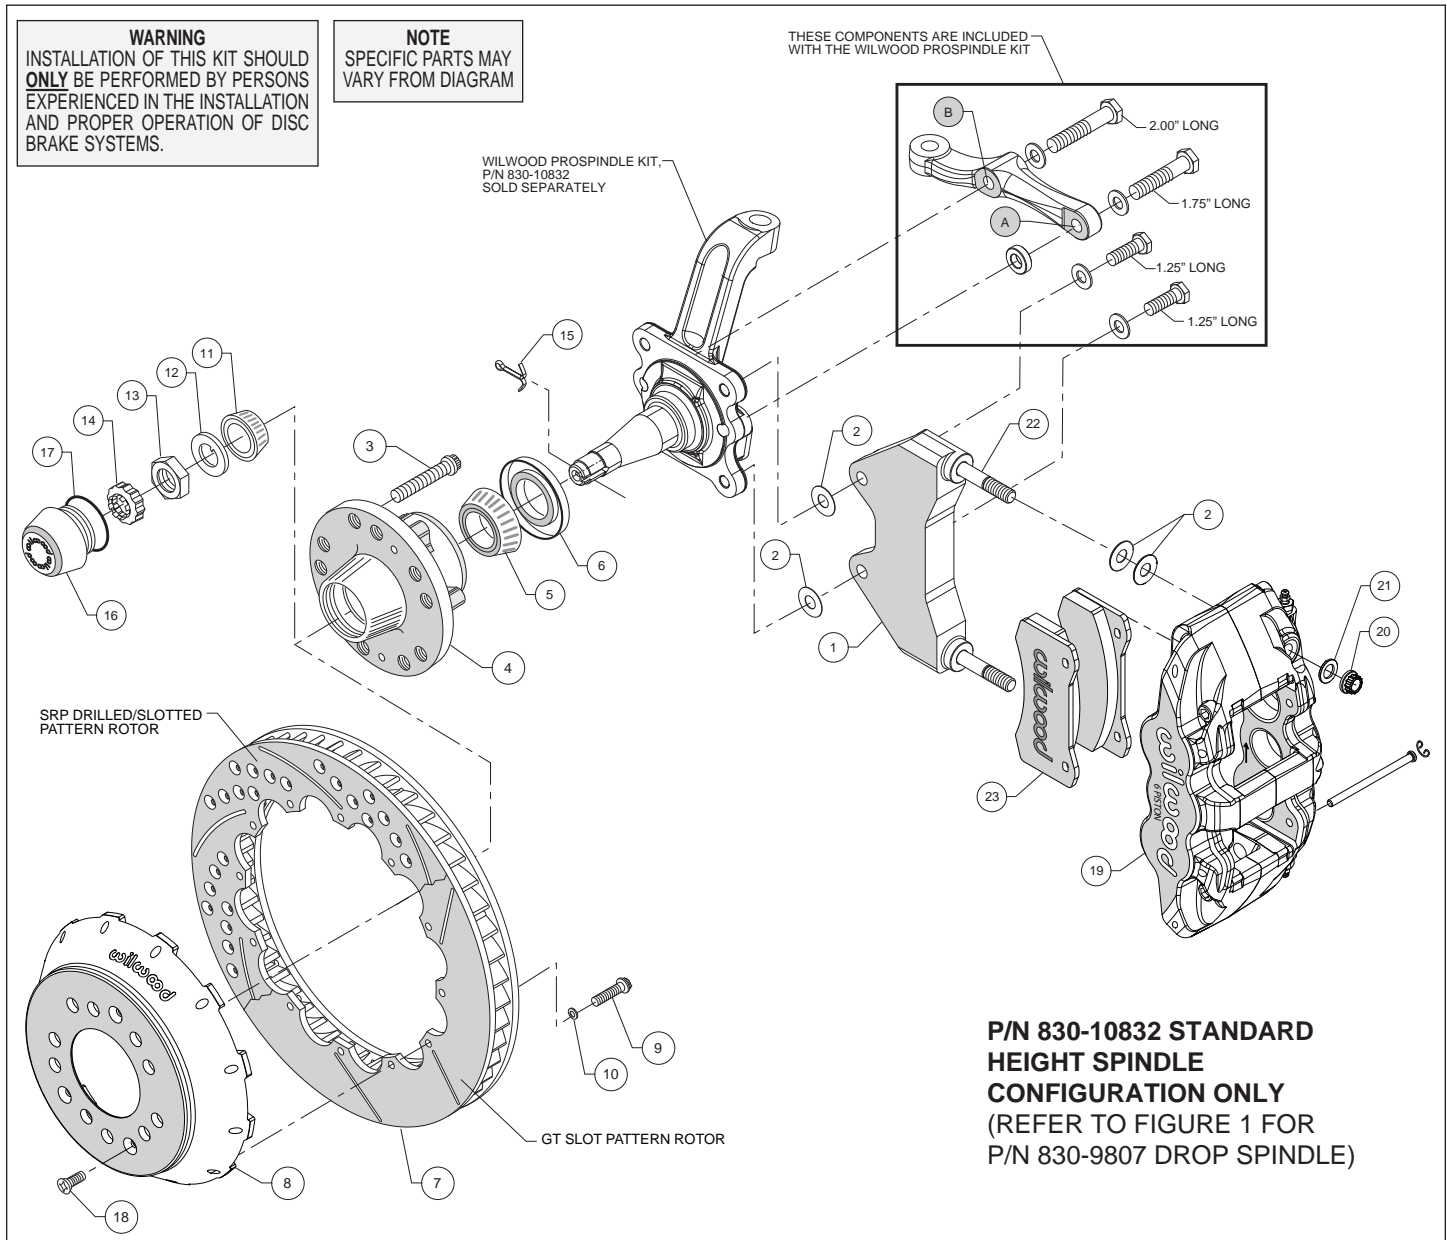

Figure 2. Installation Configuration For Standard Height Spindle, P/N 830-10832
- Orient the bracket as shown in Figure 2 and Photo 2. Install using 1.25" long bolts and .06" thick washers (from ProSpindle kit), and one .030" thick shim (2) on each bolt between the bracket and spindle, Figure 2. Temporarily tighten mounting bolts. **NOTE:** The bracket must fit squarely against the mounting points on the spindle. Inspect for interference from casting irregularities, machining ridges, burrs, etc. Later, after the caliper alignment has been checked, the mount bolts will be secured using red Loctite® 271.
- Orient the steering arm, and identify the hole marked 'A', as shown in Figure 2. Install using 1.75" long bolt, .06" thick washer, and .30" thick spacer (all from ProSpindle kit), Figure 2.
- Finish attaching the steering arm through the hole marked 'B', as shown in Figure 2. Install using 2.00" long bolt and .06" thick washer (from ProSpindle kit), Figure 2.
- Install wheel studs (3) into the hub (4), Photo 3. Torque to 77 ft-lb. **NOTE:** There are two five lug patterns in the hub (5 x 4.50 and 5 x 4.75). Ensure the correct hub stud pattern is being used to fit the wheel application.